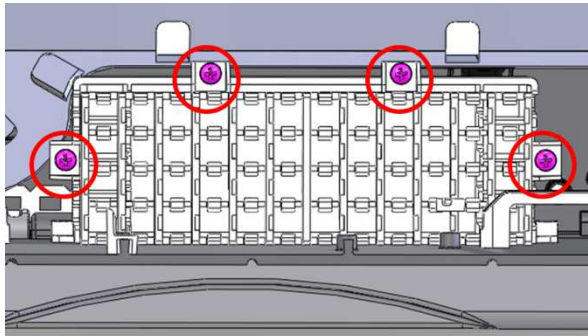

Figure 23
1.6.1 Unscrew the parking support for the suplitter (Fig. 23). Maintain the screws in a safe place in order to attach them back in place at the end of the installation.